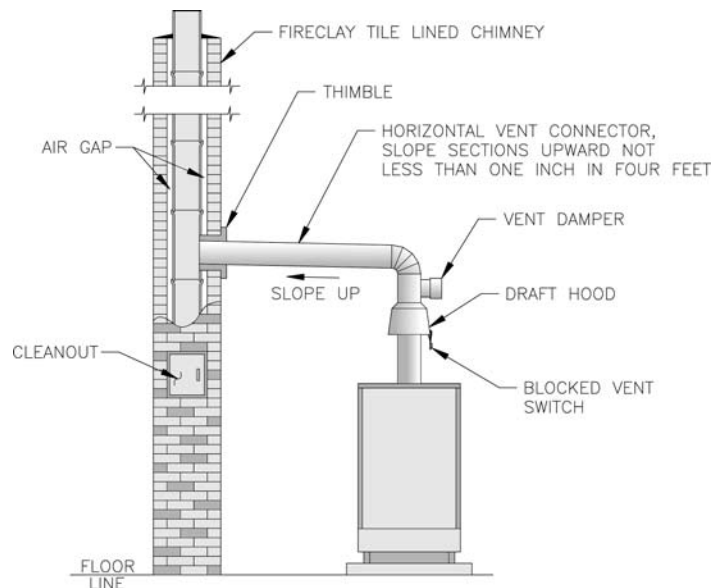

Figure 12: Typical Vent System Installation
F. Install Vent Connector from vent damper to chimney or gas vent. See Figure 12.